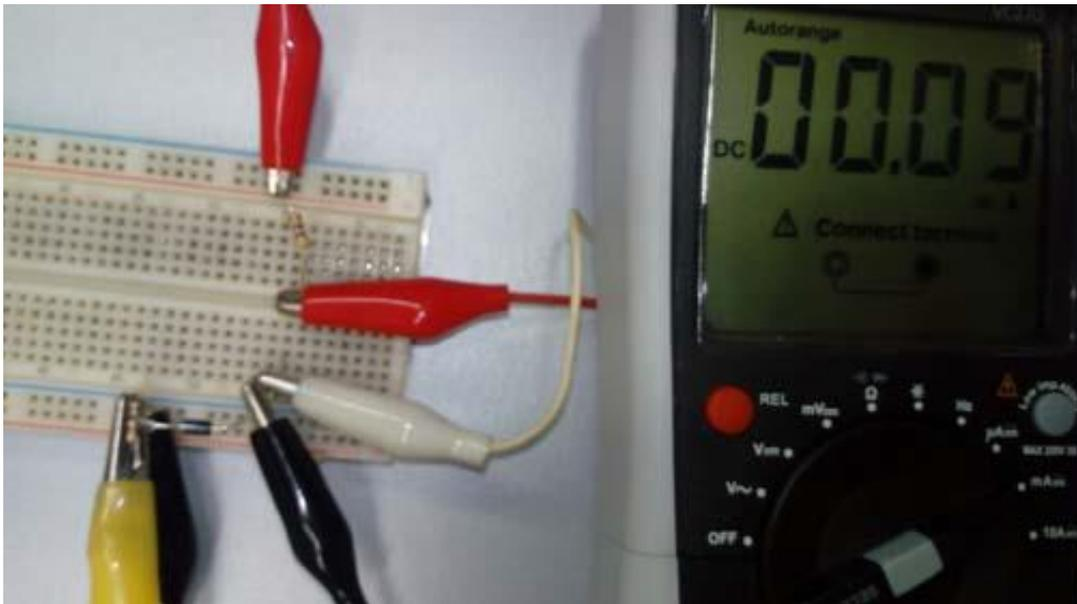

Figure 5.9: Measurement of diode current with digital multi-meter/ammeter
7. Measure the value of the diode current I_d with digital multi-meter, used as ammeter, Figure 5.9, and write it in Table 5.1.